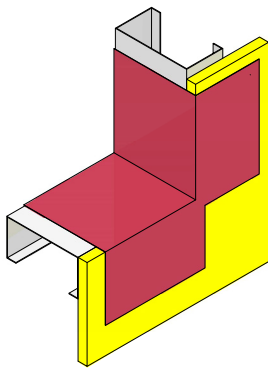

Figure 21
1. Apply a generous amount of Flashing Primer to the corners of openings and out onto the substrate. (See Figure 21)